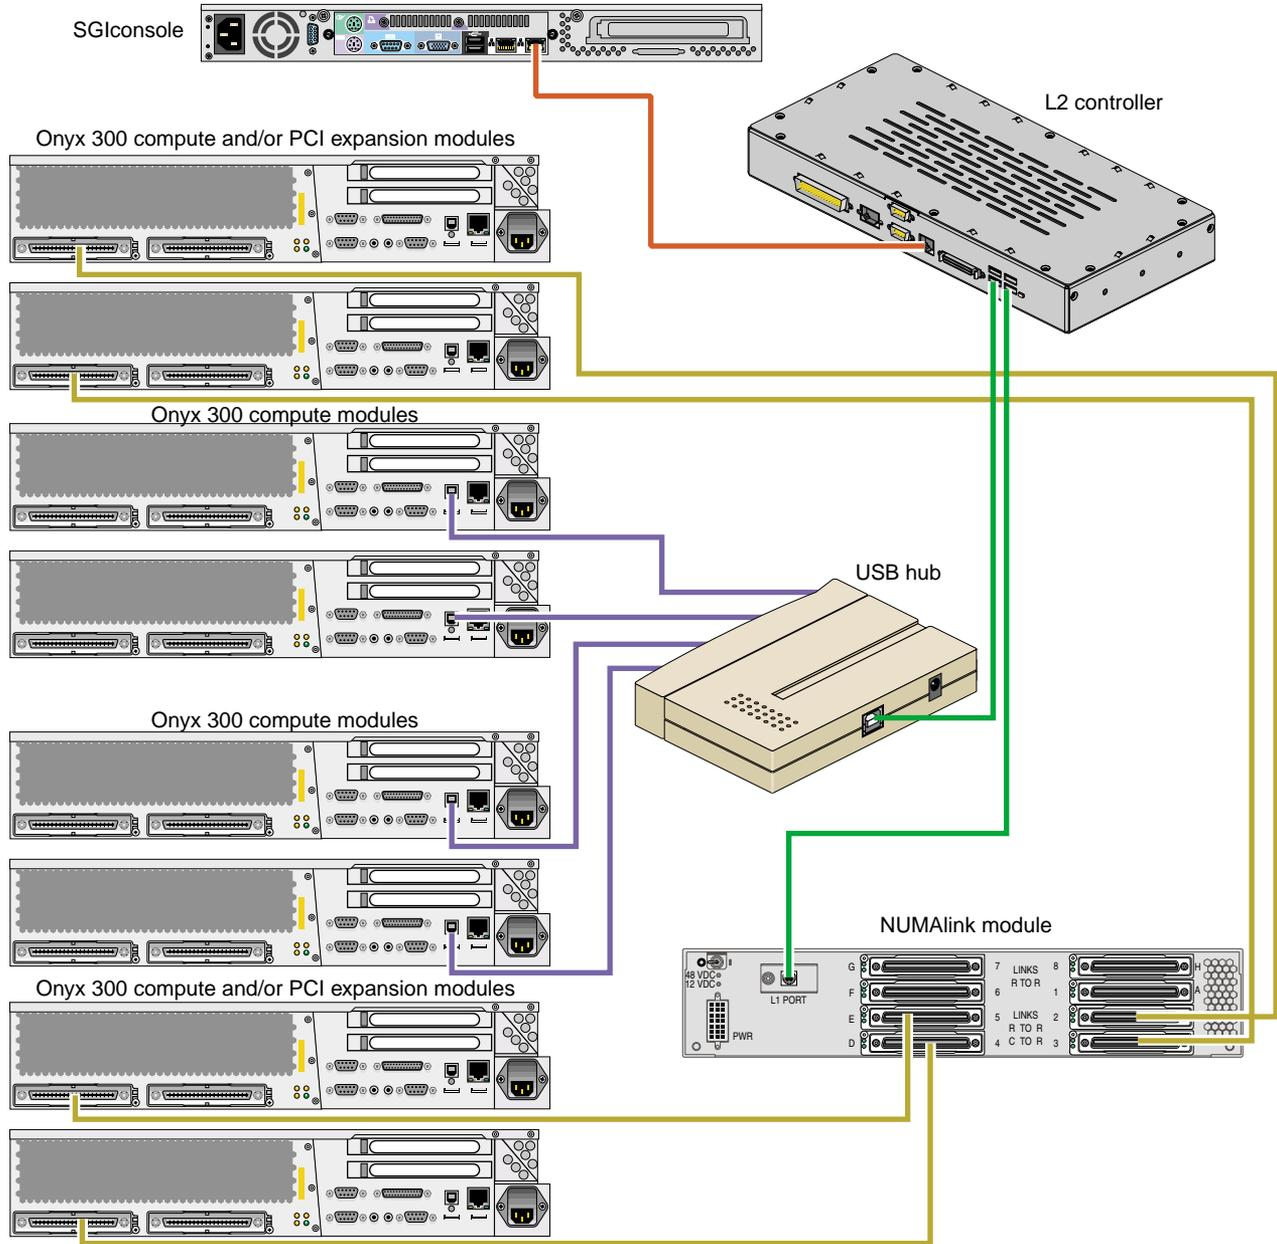

Figure 2-12 NUMalink Module and USB Hub Connections to the L2 Controller
- NUMALink module (refer to Figure 2-12)
Figure 2-12 shows how the components of a graphics system that contains a NUMalink module connect to the L2 controller.